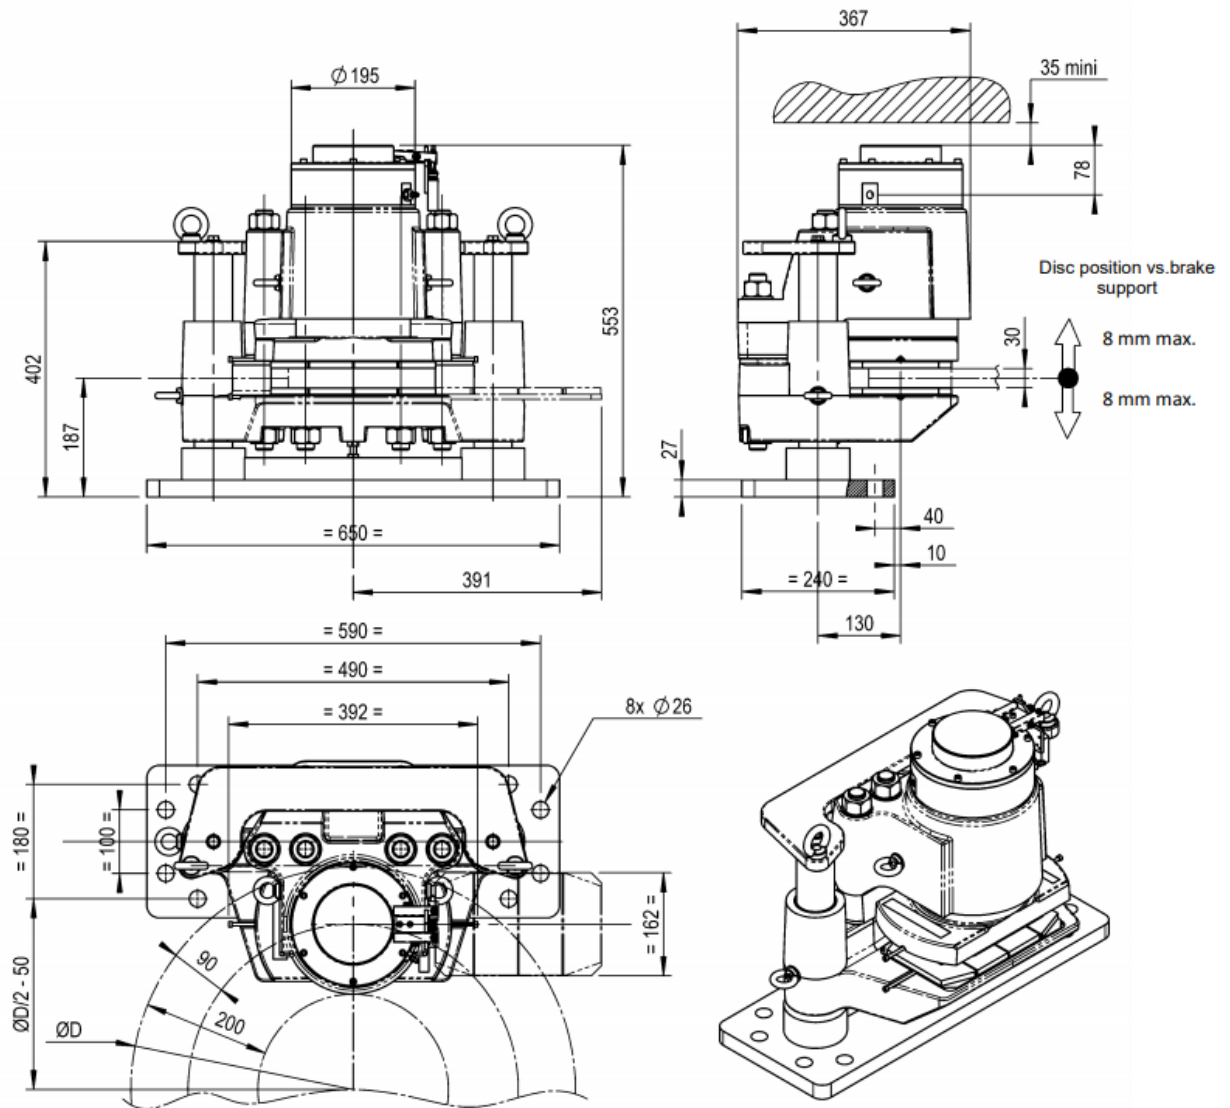

Fig. 2.2
1. Brake HS 145 FHM-270 R-V Check the disc position 187 +/-8 mm Fig. 2.2 use the balancing screw (16mm on flats) below the caliper and that the disc is parallel // 0,3 to the brake pad. Check that the support balance in relation to the disc is less than 0,2mm. Check that the disc is fully between the pads. Read before also chapter 5.1.